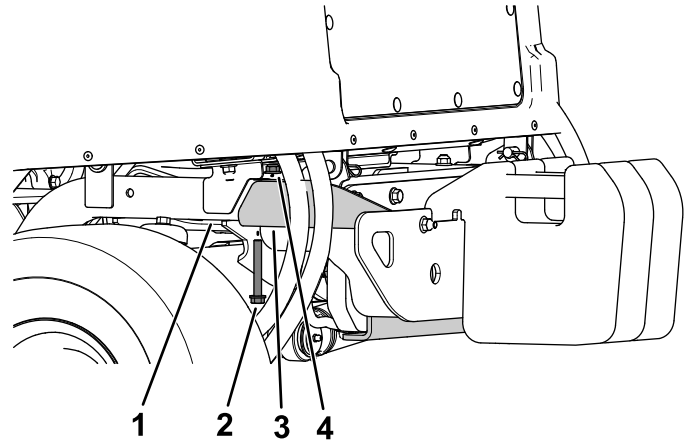

Figure 22
1. Remove the flange-head bolt (3/8 x 2-3/4 inches) and flange nut (3/8 inch) securing the bumper to the rear tube frame on each side of the bumper (Figure 22).